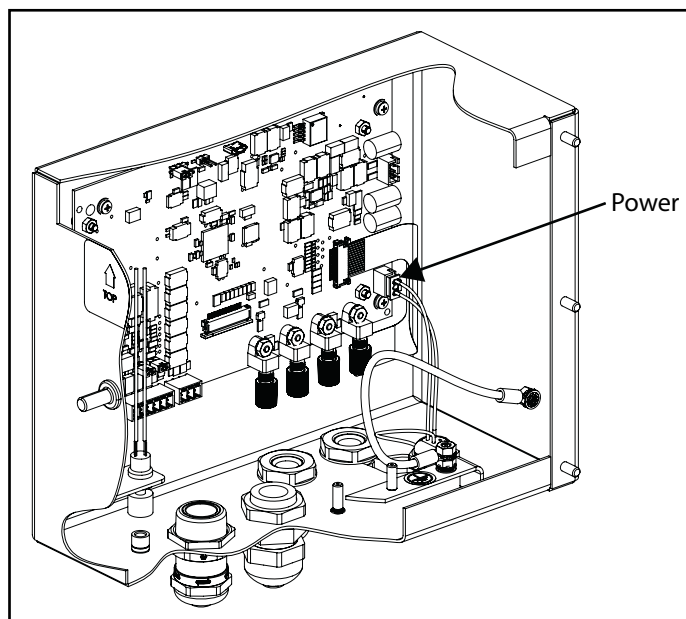

Figure 2-11. Connect Power Outlet Wiring
**NOTE:** The DC power cable should be attached to connector J4 (Figure 2-11 on page 25).
2. Connect the plug to the J3 connector on the CPU board (see Figure 2-11).